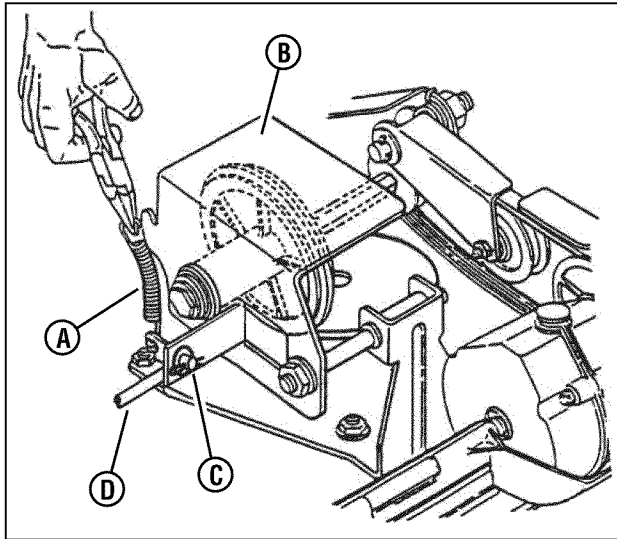

Figure 28: Adjusting the driven disc
- Remove the driven disc spring (A, Figure 28) from the driven disc assembly (B). Also remove the pin and washer (C) from the transfer rod (D), and remove the end of the transfer rod from the hole in the driven disc assembly.
- Remove the pin and washer (C, Figure 28) from the transfer rod (D), and remove the end of the transfer rod from the hole in the driven disc assembly.